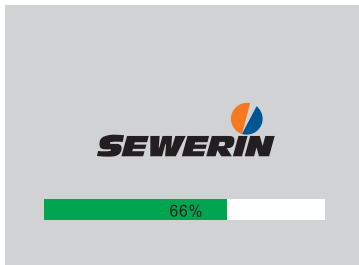

Fig. 12: Start image
1. Press the On/Off key until the start image (fig. 12) appears.